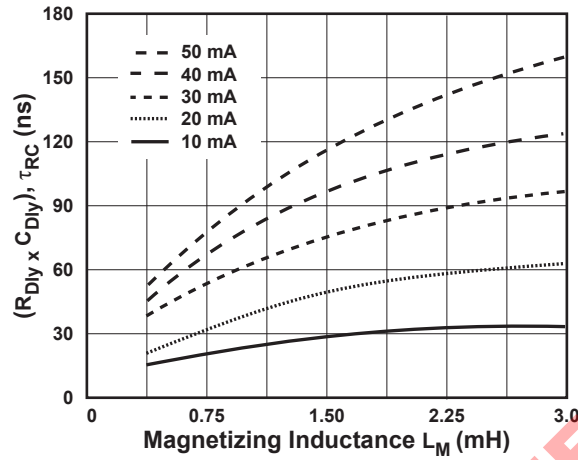

Figure 11.0.7. T_{ON} Compensation Chart
2. Find the curve that best matches this difference from Figure 11.0.7.
Solving for C_5 , we get 44 pF. The result should be a match between high line and low line constant current curves. See figure 11.0.7 for details.